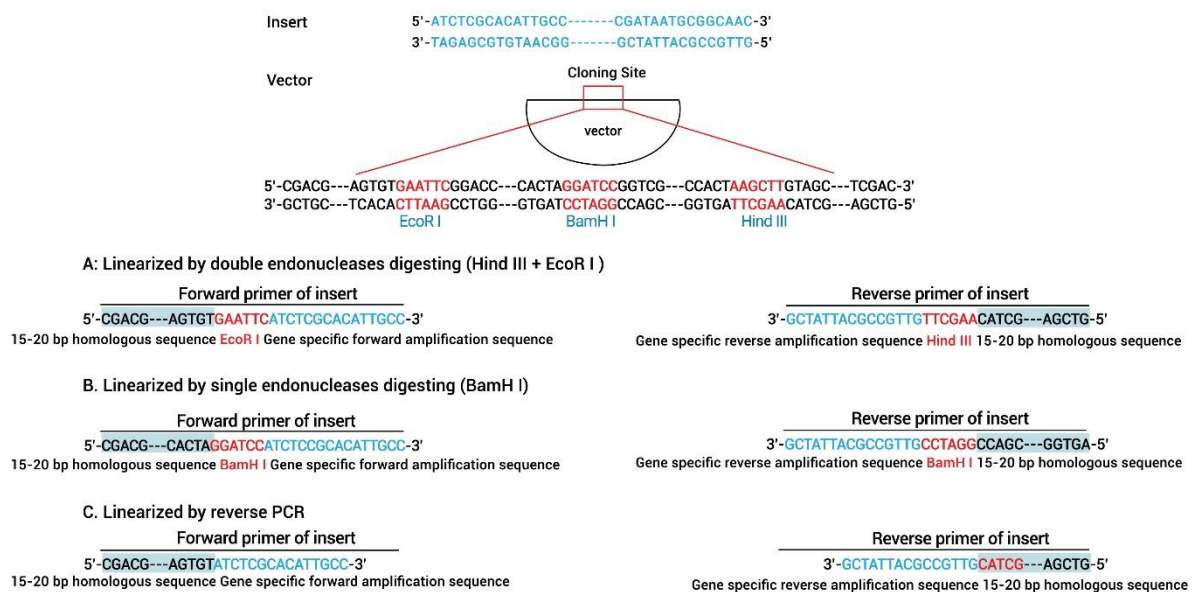

Figure 4:Primer Design for Single-fragment Homologous Recombination
*Homologous sequences of vector-upstream or -downstream end is the sequence at the ends of the linearized vector (for homologous recombination). GC content of 40% - 60% is recommended. It is recommended to use Assay Genies software, Genie Clone Design (available on request techsupport@reagentgenie.com), to design primers. The Genie Clone Design automatically generates amplification primers of insert. You can also design the primers manually. An example is shown in Fig 4.
*Primer design of fragments of A and C (Refer to Fig4. Primer design for single-fragment homologous recombination).